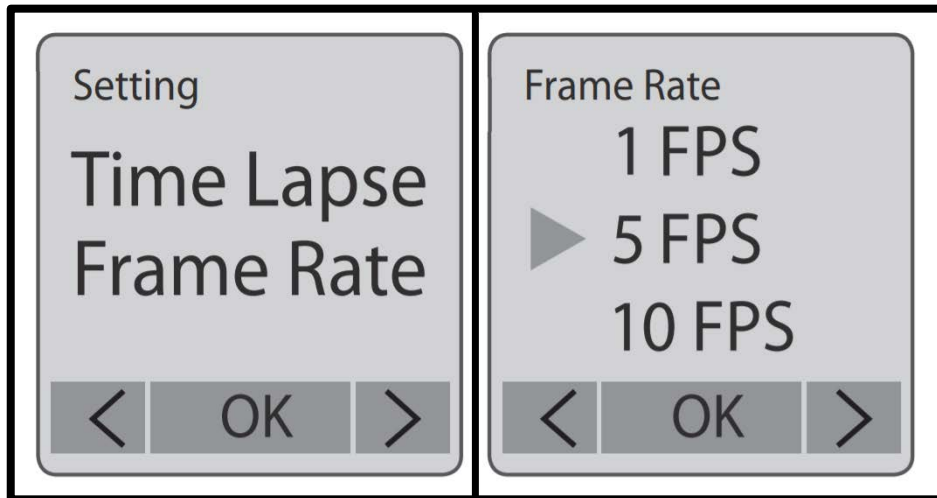

Figure A.11.4: Setting the frame rate.
5. Use the “MENU” and “TIME” buttons to scroll through the various options in the “Settings” screen until the “Time Lapse Frame Rate” option is shown on screen (left of Figure A.11.4).
- a. Use the “MENU” and “TIME” buttons to scroll through the various FPS options until the “5 FPS” option is arrowed in as shown on the right of Figure A.11.4. Press “OK” to select this option.